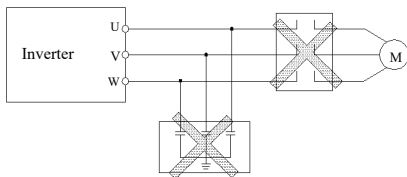

Fig.3-3 Banned magnetic control conductor and absorbing capacitance between inverter and motor
(1) Assure power cut off completely for above 10 minutes before wiring, otherwise have danger of getting electric shock.
(2) Forbid connecting power wire to output U, V, W of the inverter.
(3) There is current leakage in the inverter and leak current of middle/high power inverter is bigger than 5mA, for safety reason, inverter and motor must be earthed safely, commonly use 3.5mm² above copper wire as ground wire and ground resistance smaller than 10Ω.
(4) Before shipment compression resistance test of the inverter is passed, so user should not conduct compression resistance test again.
(5) Should not assemble electromagnetic contactor and absorbing capacitance or other absorbing device, see Fig.3-3.
(6) To be convenient to over current protect of input side and power off maintenance inverter should be connected to power supply through relay.
(7) Connecting wire for relay input and output loop(X1, X2, FWD, REV), should use above 0.75mm² glued wire or shielding wire, one shielding layer end hung in the air, the other connected to grounding end , connecting wire shorter than 20m.